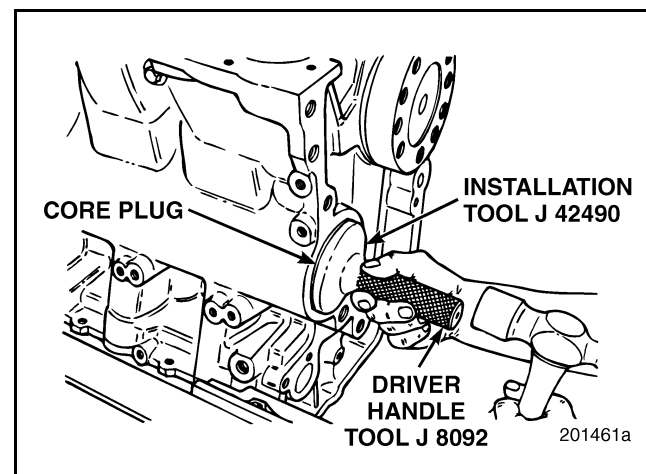

Figure 263 — Camshaft Core Plug Installation
- Drive the core plug into place by striking the installation tool with a hammer (Figure 263) until the core plug is seated. Core plug is fully seated when the step in the installation tool bottoms against the block.